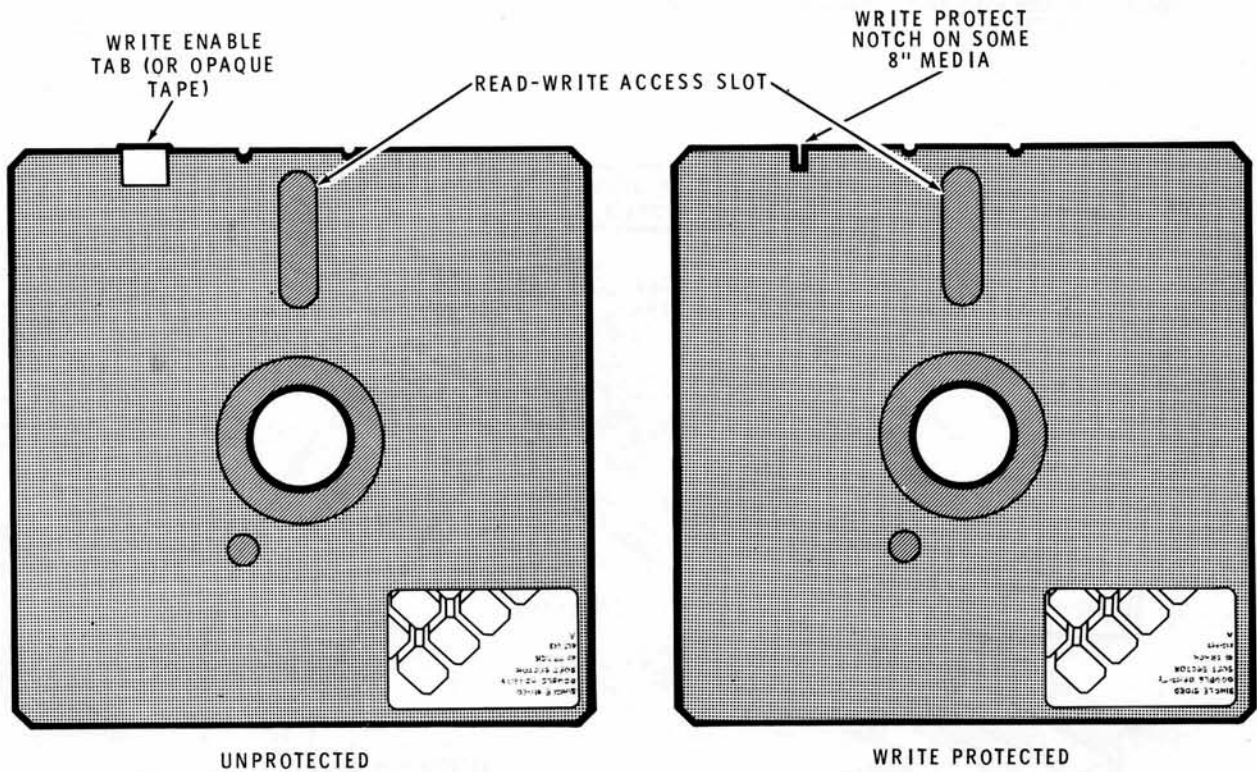

Figure 4-5
- Refer to Figure 4-5, and place the write-enable tape over the write protect notch of the 8" disk.
To write-protect a disk so it cannot be written on, remove the tab or opaque tape from the write-protect notch. Refer to Figure 4-5.